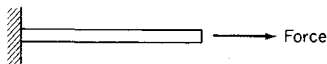

Fig. 20
71. The force shown in Fig. 20 causes the material